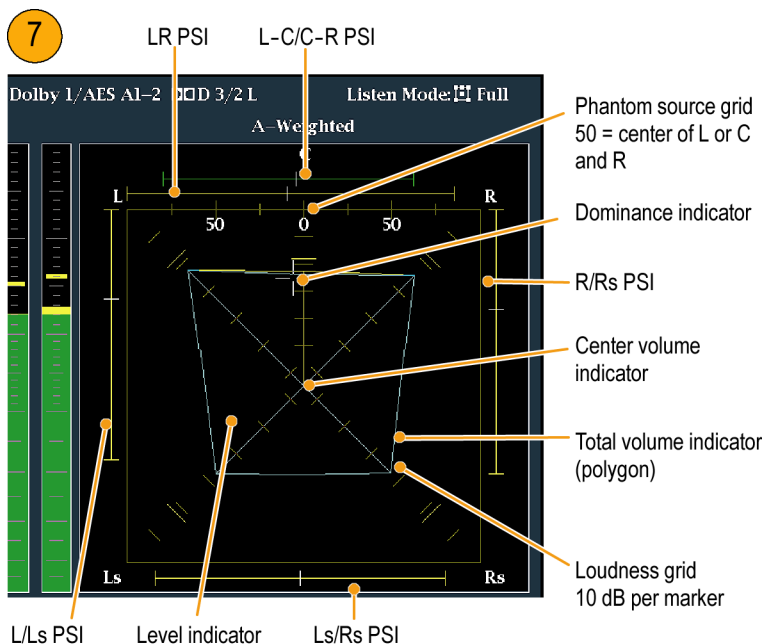

Figure 53: Surround sound indicators
7. Use the surround display to monitor relative loudness of the individual elements rendered in a surround-sound listening environment. Check the surround sound display for performance parameters and indicators. (See Figure 53.)